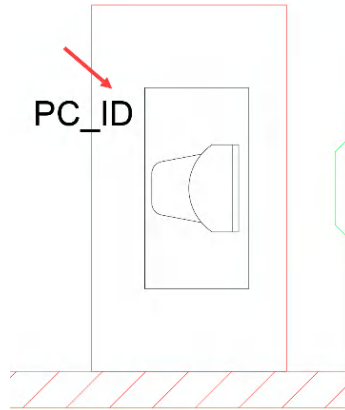

Figure 10.7: The placed block attribute
9. Click on **OK**, and the dialog box closes, leaving you with the attribute attached to your cursor. Make sure to place the attribute to the left of the PC objects in the drawing, as shown in *Figure 10.7*.